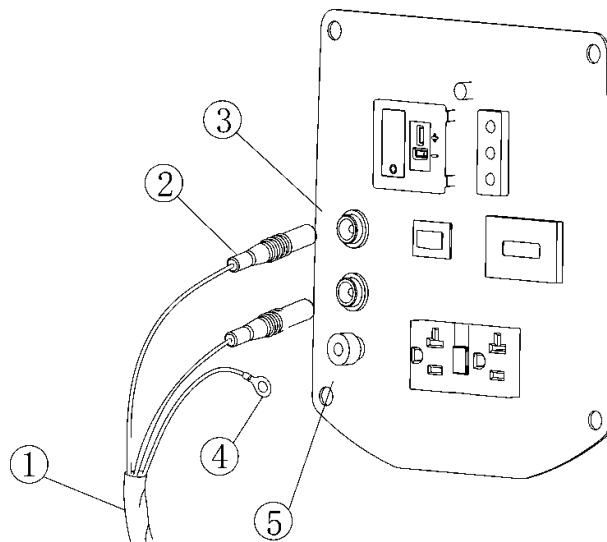

Figure 3
2. Insert the connecting plug ② of the parallel cable ① to PARALLEL OUTPUT receptacle ③ on the controller panel of each generator (See figure 3)
3. Connect the grounding terminal ④ of the parallel cable to the grounding terminal ⑤ of each generator (See figure 3)